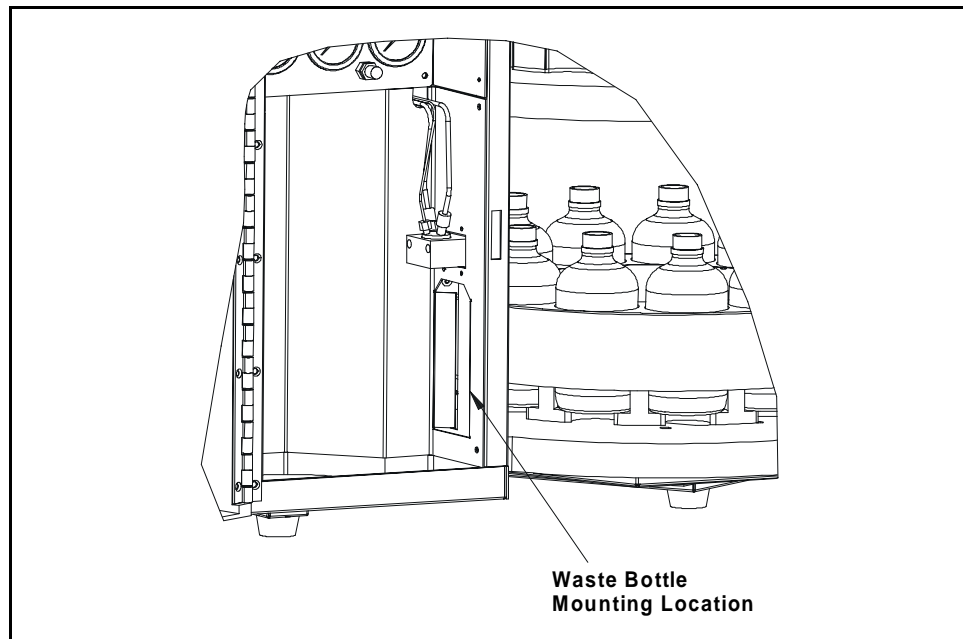

Figure B-8. Waste Bracket Mounting Locations
7. Use a 250 mL collection bottle for waste collection. The waste bottle installs in a holder on the right inside wall of the solvent reservoir compartment (see Figure B-8).